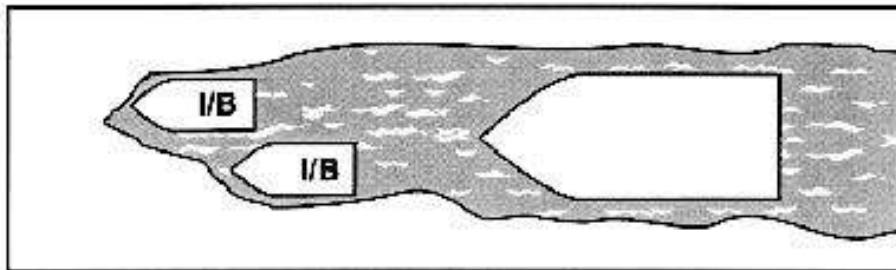

Figure 6-2 Parallel Tracks
- 4 Ice Dumping. These vessels will also require places to dump ice from the bow at periodic intervals, especially in refrozen brash, or several parallel tracks so ice displaced by the vessel's passage has somewhere to go (See **Figure 6-2**.)